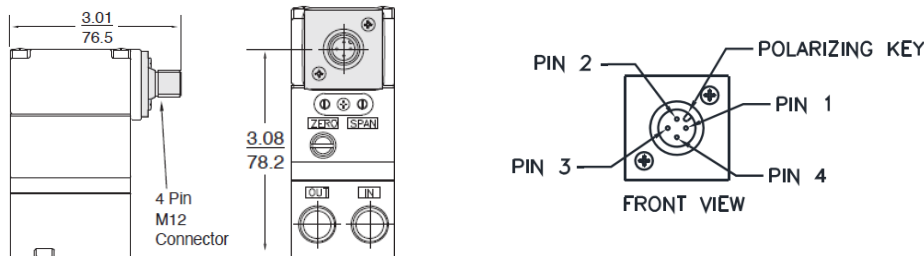

Figure 6 – M12 Connector
- 2.5.7 M12 (M) Electrical Connections: I/P connections are made to the positive (+) pin 2, negative (-) pin 1. E/P connections are made to control signal (+) pin 2, power supply (+) pin 3, negative (-) control signal, and power supply pin 1. Pin 4 is an optional case ground for both I/P and E/P connections (see figure 6).